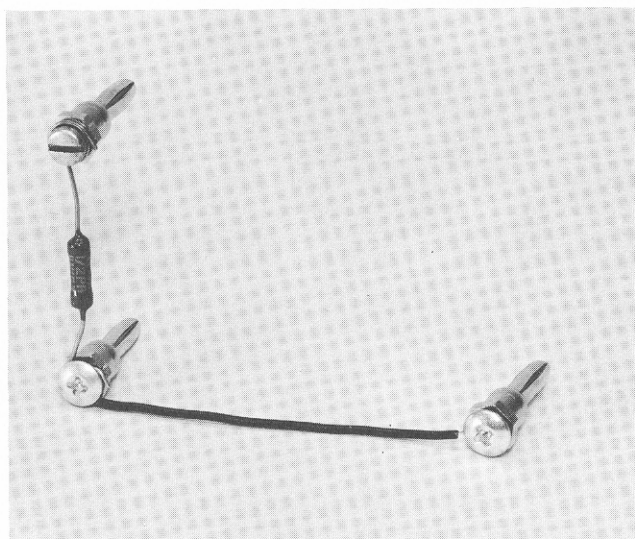

Fig. 5-1. Test resistor assembly.
4. Two precision resistors: A 100-ohm, 8 to 10 watt, and a 1000-ohm, 1/2 watt,  $\pm 0.5\%$  each, fitted with banana plugs as shown in Fig. 5-1.
5. A coax cable about 42 inches long to permit the test oscilloscope to be connected to the resistors of item 4.